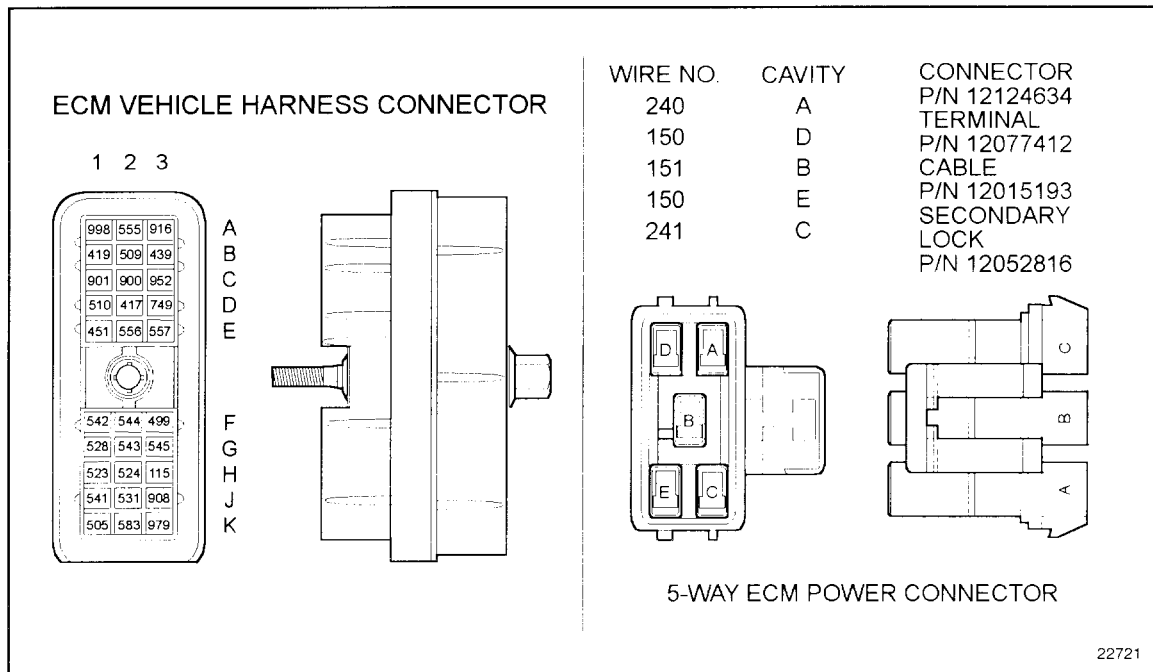

Figure 22-5 ECM Vehicle Harness Connector
3. Measure resistance between sockets A (return #952) and C (5V #916) on the TPS harness connector. See Figure 22-5.